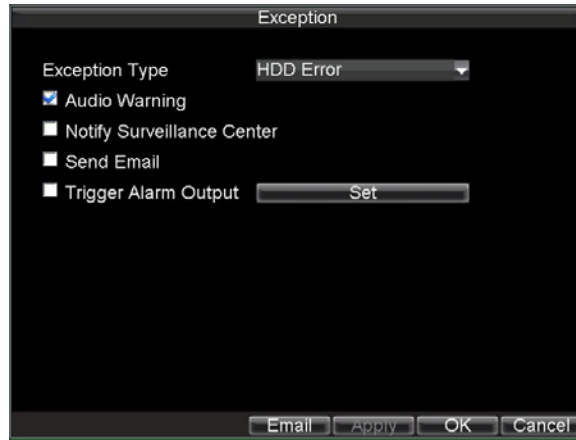

Figure 12. Exception Menu
1. Click Menu > Settings > Exception to enter Exception menu, shown in Figure 12.